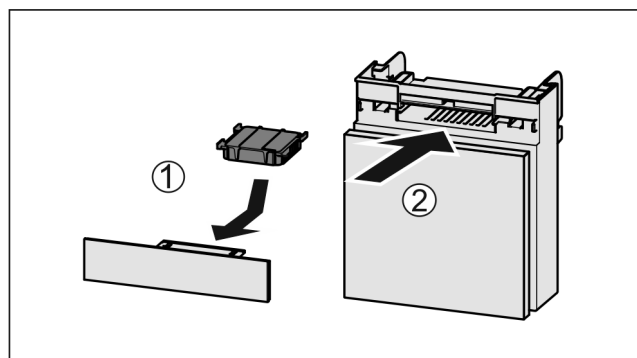

Fig. 122
- ▶ Insert the carbon filter as shown in the diagram Fig. 122 (1).
- ▶ Push the compartment in Fig. 122 (2).